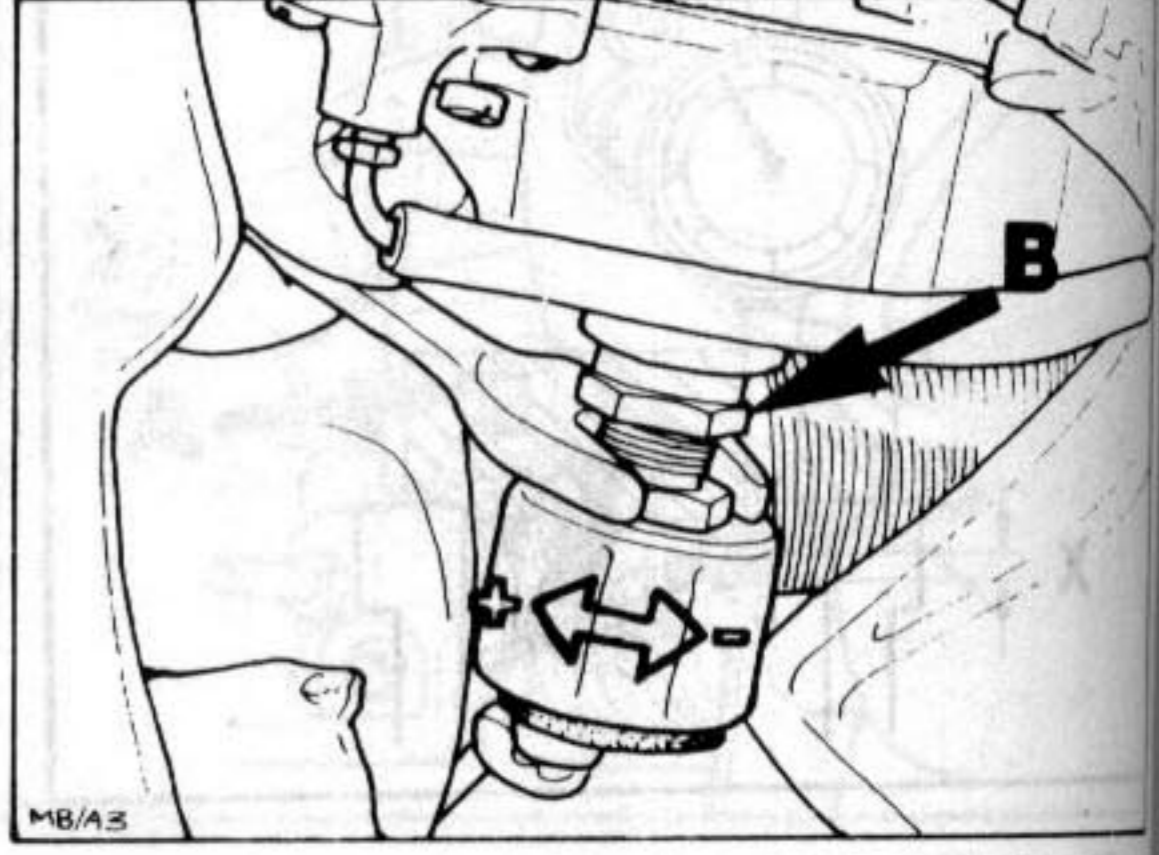

Fig. 3 Idle mixture adjustment
- If outside specified limits, adjust by slackening locknut (B) at idle speed shut-off valve on underside of carburettor and turning valve in appropriate direction (Fig. 3). Screwing valve out will richen mixture, in will weaken it.